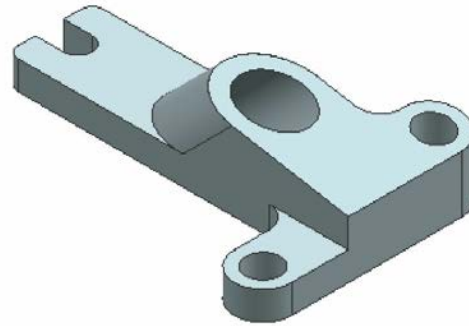

Figure 13-113 The resultant model
5. Enter **5** in the **Distance** edit box of the **Transform** rollout and choose the **OK** button. Figure 13-113 shows the model after modifying the distance.